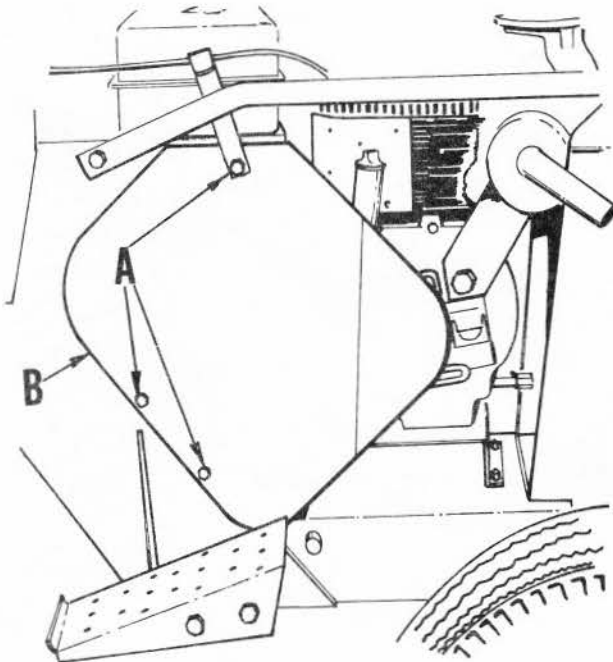
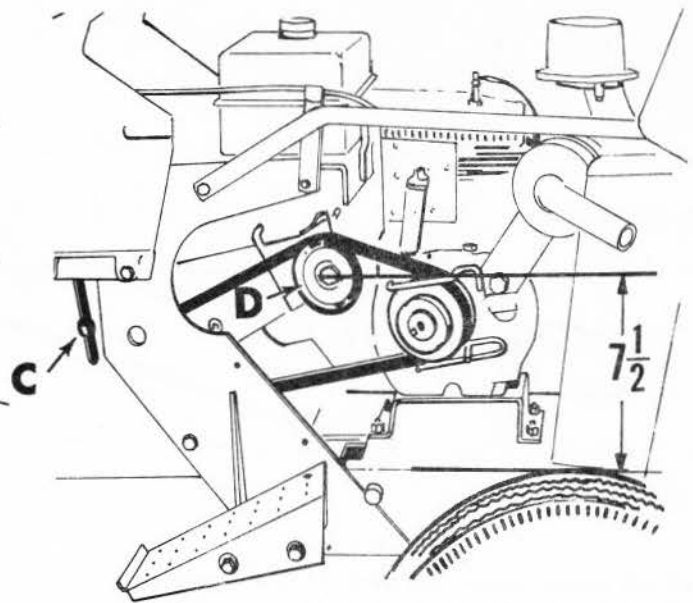

FIG. 15
FIG. 16
2. Loosen bolt (C), in flat idler and push bolt down in slot in frame until center of idler pulley (D), is $7\frac{1}{2}$ inches above frame as shown in Fig. 16.
3. Tighten bolt (C), in flat idler securely making sure belt guide finger on bolt (C), clears belt approximately $\frac{1}{8}$ inch.
4. Replace pulley guard (B), Fig. 15.